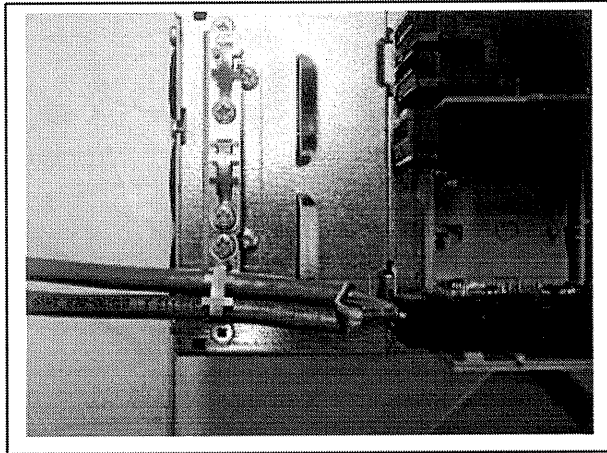

Figure 3-7. Fixing the Cables to the Frame
3. Fix both the cables on the frame with the clamp. See Figure 3-7.